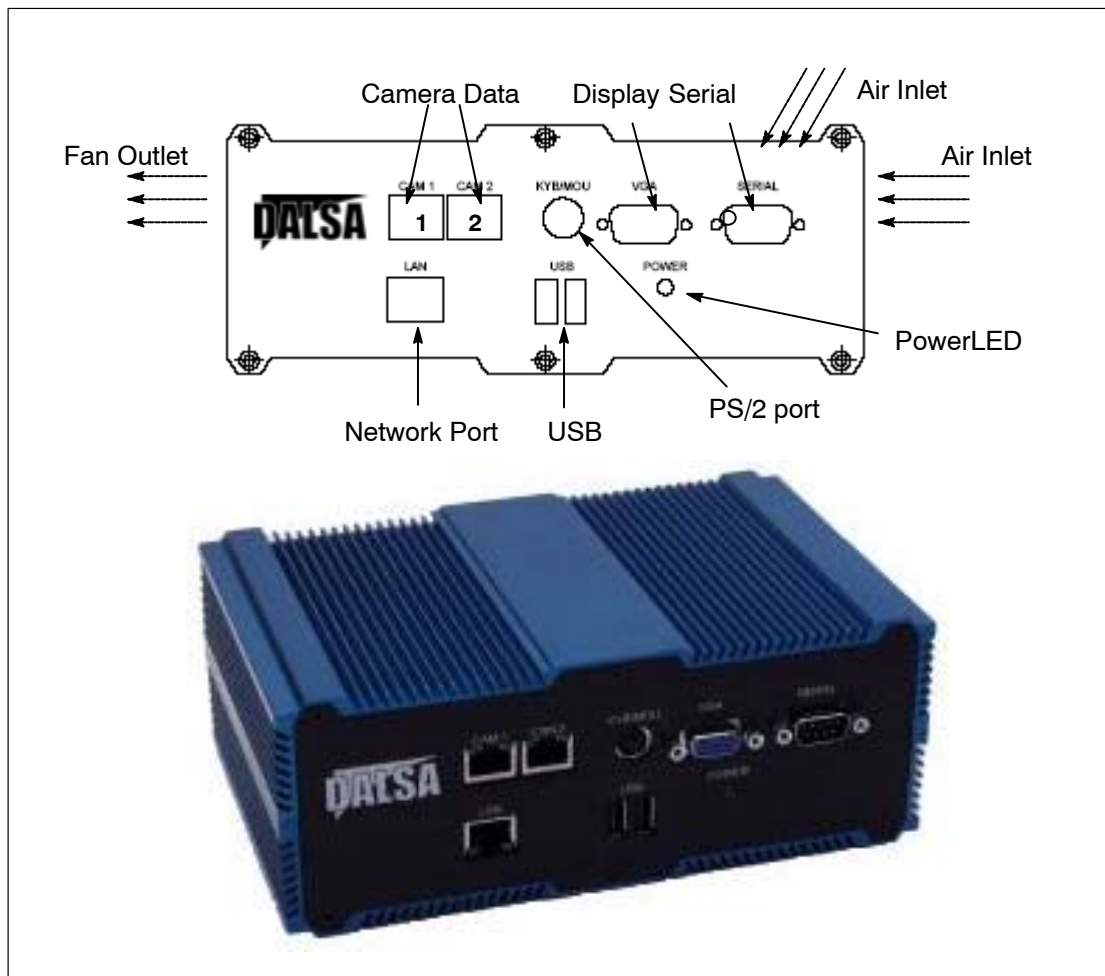

Figure 2. GEVA Front Panel Connectors
Before attempting installation, familiarize yourself with the various hardware interfaces detailed in Figure 2.
- The camera(s) can be triggered through the GEVA I/O. The external trigger(s) would be input at the 12-pin Trigger/Strobe connector, and output to the cameras through the 7-pin connectors illustrated in Figure 2 on page 17.